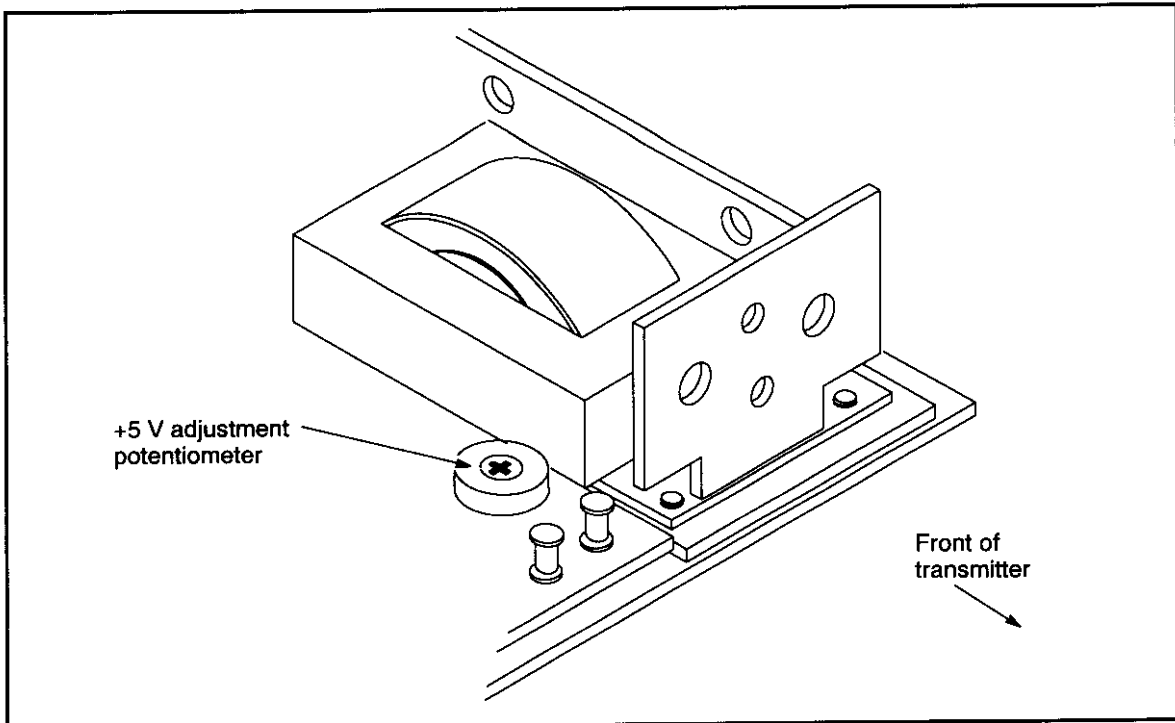

Figure 42. Location of the Transmitter +5 VDC Adjustment.
- If necessary to adjust the output level, use Figure 42 to locate the voltage adjustment potentiometer.